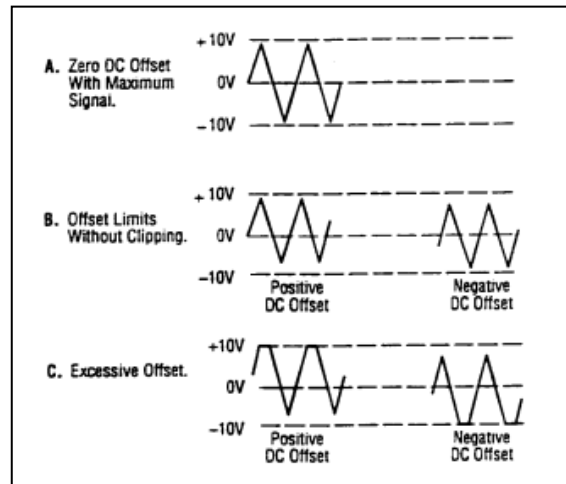

Figure 3. Use of DC OFFSET Control
7. A superimposed DC component can be added to the output signal by engaging the **DC OFFSET** switch (12) to enable operation of the **DC OFFSET** control (5). Rotation of this control adds a positive or negative DC component to the output signal. The DC component introduced is independent of the **OUTPUT LEVEL** control and can be varied by ± 10 volts open circuited or ± 5 volts into $50\ \Omega$. The DC Offset does not affect the **TTL/CMOS** output jack. The effect of DC OFFSET is shown in Fig. 3.
6. Remember that the output signal swing of the generator is limited to ± 10 volts open circuited or ± 5 volts into $50\ \Omega$, and applies to the combined peak-to-peak signal and DC offset. Clipping occurs slightly above these levels. Fig. 3 illustrates the various operating conditions encountered when using the DC offset. If the desired output signal is large or if a large DC offset is required, an oscilloscope should be used to make sure that the desired signal is obtained without undesirable clipping.